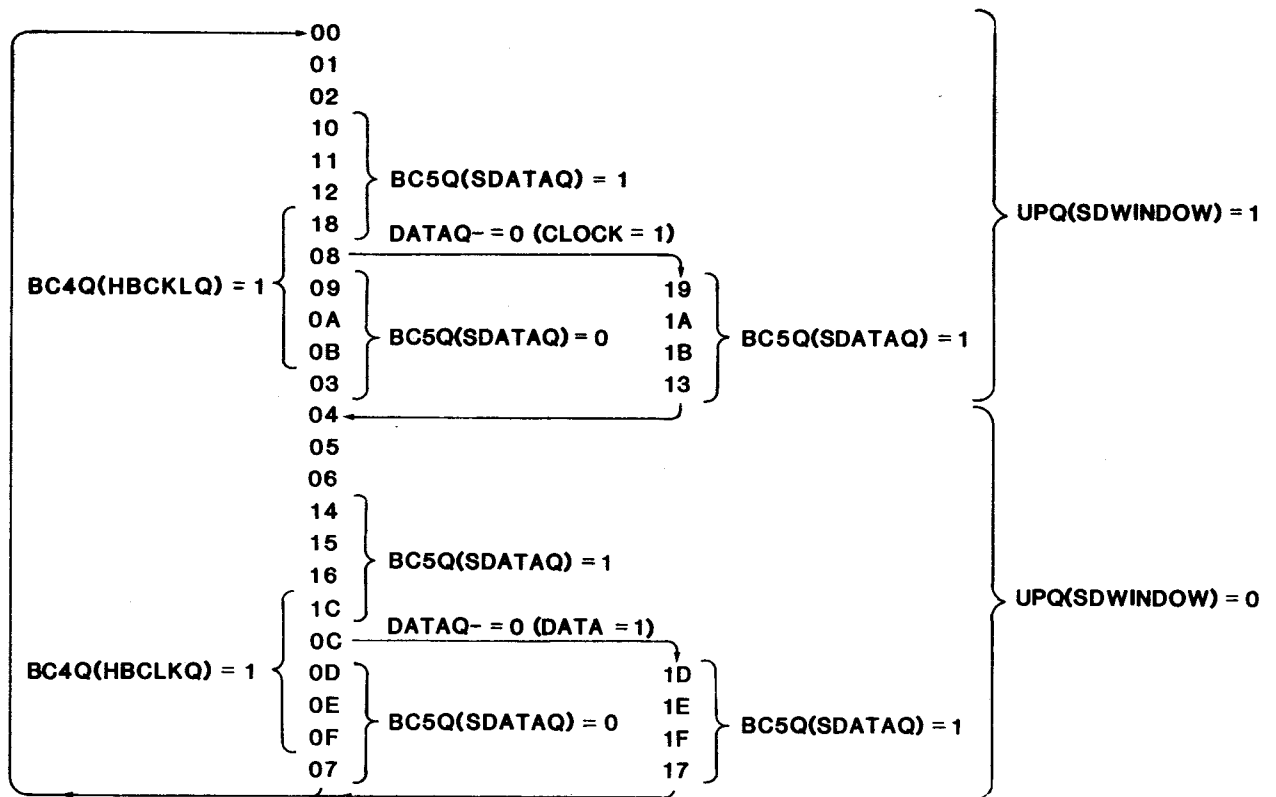
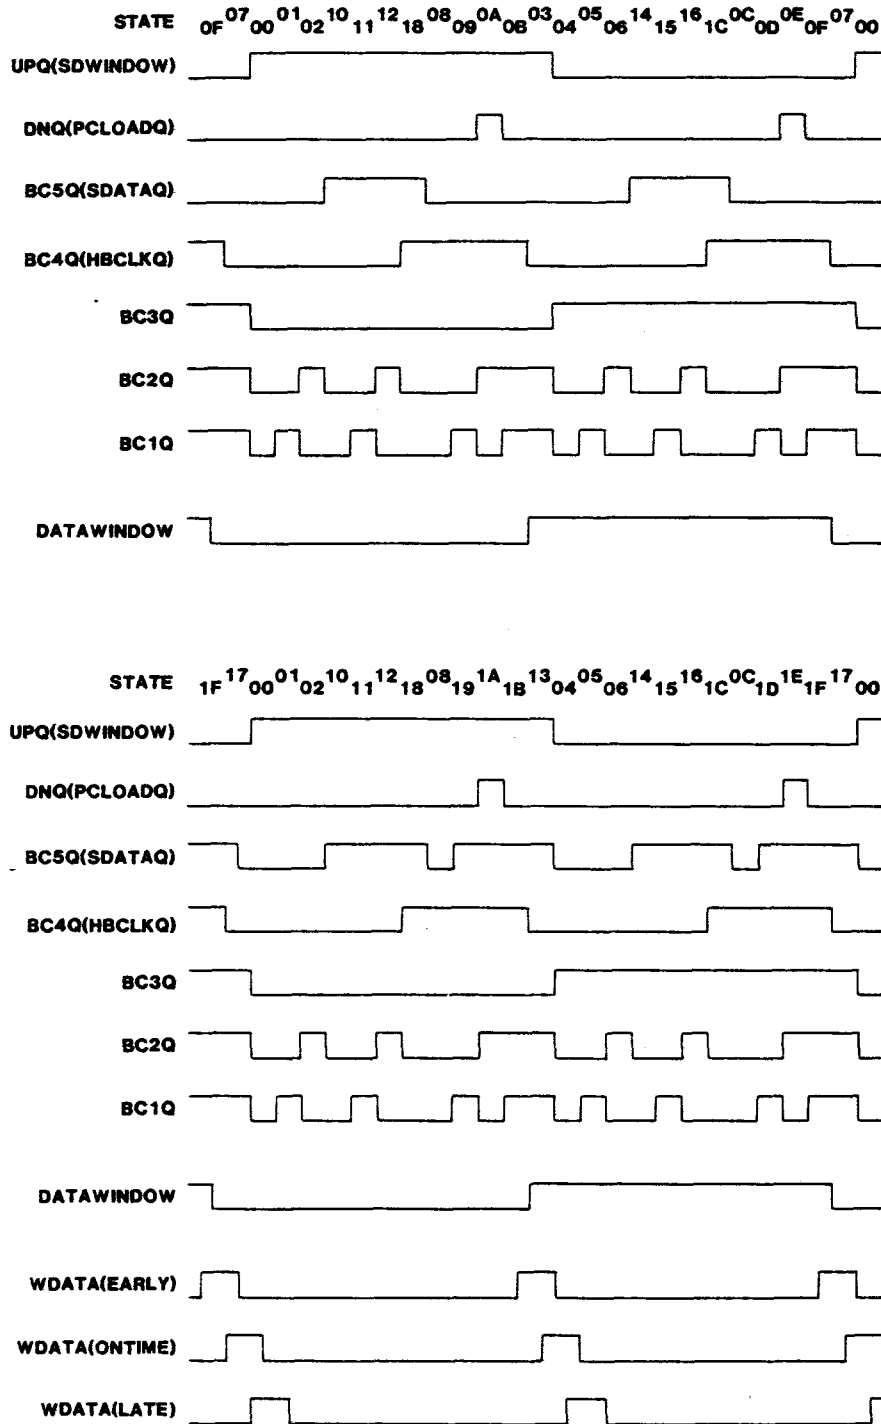

FIGURE 4-13. BIT CONTROLLER WRITE FM STATE DIAGRAM
FIGURE 4-14. WRITE FM TIMING
The bit controller state diagrams for writing single density (FM) and double density (MFM) are shown in Figures 4-13 and 4-15. The state transitions occur vertically from top to bottom of the diagram except as shown. The bit controller timing diagrams for writing FM and MFM are shown in Figures 4-14 and 4-16.